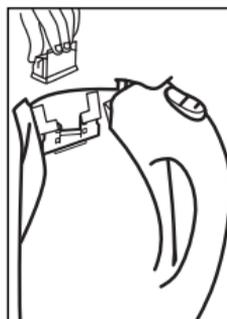

Figure 4
5. To refit the filter (See Figure 4): With index finger on the tab at the rear of the filter, and the thumb on the point at the front of the filter, squeeze together to raise the horizontal part of the filter about 30° toward the vertical part. While holding it in this position, engage the grooves in the upright part of the filter with the sides of the filter baffle, and slide the filter down to the bottom of the baffle.